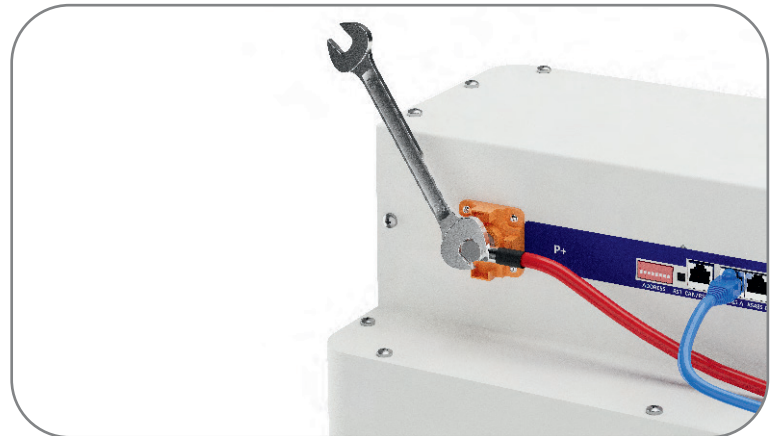

Figure 7.9
STEP 9: Connect the power cables between the LBPs using a wrench, as shown in Figure 7.9.